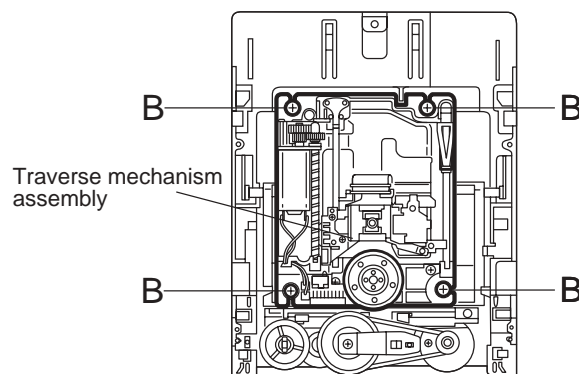

Fig.2-11
2.2.3 Removing the traverse mechanism assembly (See Fig.2-11 and 2-12)